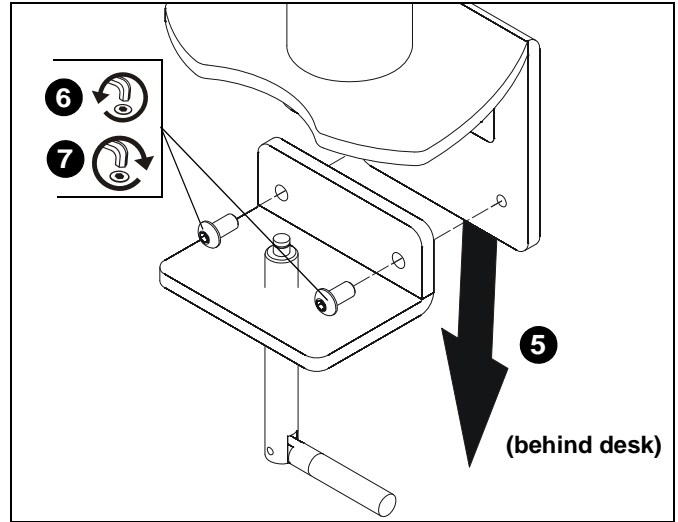

Figure 2
5. Place desk clamp (A) over desired mounting location on desk. (See Figure 2)
6. If there is not enough clearance behind the desk for the device to clear, remove the bottom portion of the desk clamp by using 5/32" hex key (D) to remove 2 connecting screws. (See Figure 2)
7. Reinstall bottom portion of the desk clamp (if necessary) by reinstalling 2 connecting screws underneath desk. (See Figure 2)